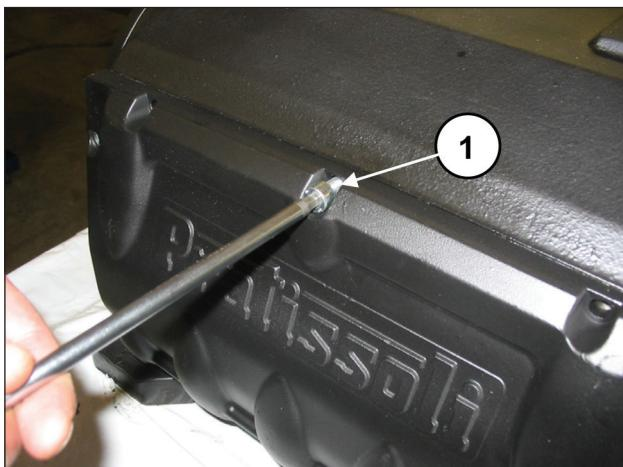

Fig. 85
Insert the O-ring on the rear cover (pos. ①, Fig. 84) and fasten it to the casing with 10 M8x18 screws (pos. ①, Fig. 85). Calibrate the screws with a torque wrench as indicated in chapter 3.